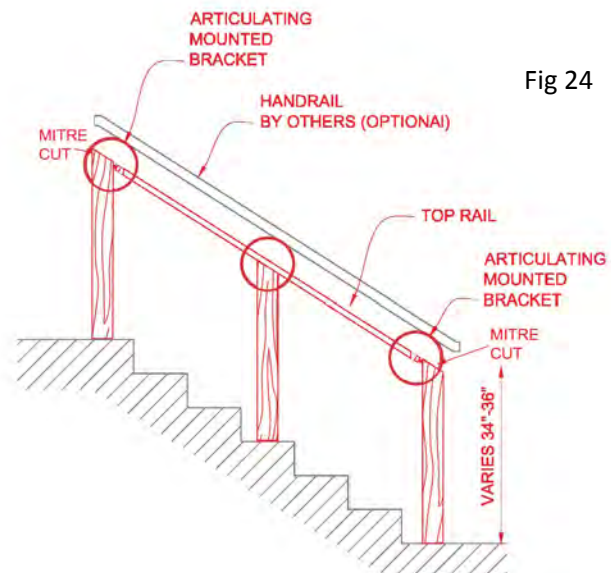

Fig 24
- Post-To-Post hand rail can also be combined with a wood top rail (Fig 24).